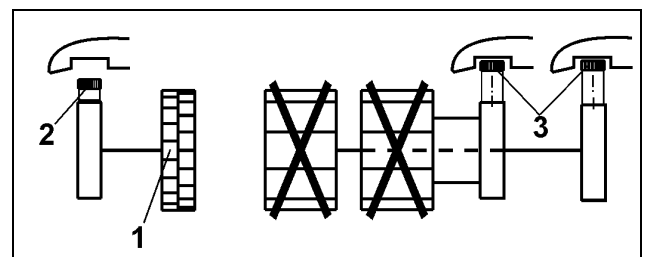

Fig. 63
When sowing with the fine seed metering wheel (Fig. 63/1)
- Drive in thumb bolt (Fig. 63/2) of the fine seed metering wheel
- Drive out thumb bolts (Fig. 63/3) of both main metering wheels.